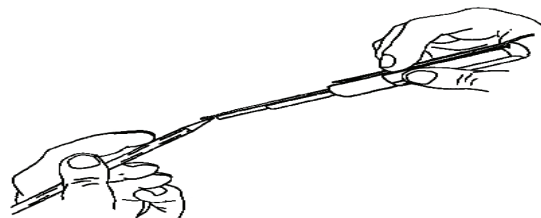

Figure 13. Inserting Contact into Insertion Tool (Typical)
- d. Place wire and contact assembly into tip of insertion tool (Figure 13). Ensure tool tip is over conductor barrel and butted against contact shoulder.